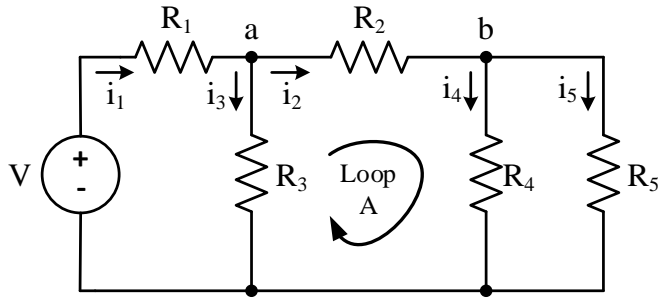

Figure 3. Resistor Network with Nodes a and b , note Loop A.
Using a breadboard, assemble the network shown in Figure 3. Using the DMM as a voltmeter, adjust the supply voltage, V , from the DC power supply, to obtain ten volts.
Measure and record the voltage across each resistor shown in Figure 3. Be sure to record the polarities of the voltages.
Using the DMM as an ammeter, measure and record the currents i_1 through i_5 shown in Figure 3. You will have to insert the ammeter in series with the resistors one-by-one, and then replace the resistor to its original position prior to doing the next measurement. Keep track of the direction of the currents you measure.
1. Verify KVL for the center loop (Loop A) as shown in Figure 3.
2. Verify KCL for node a as shown in Figure 3.